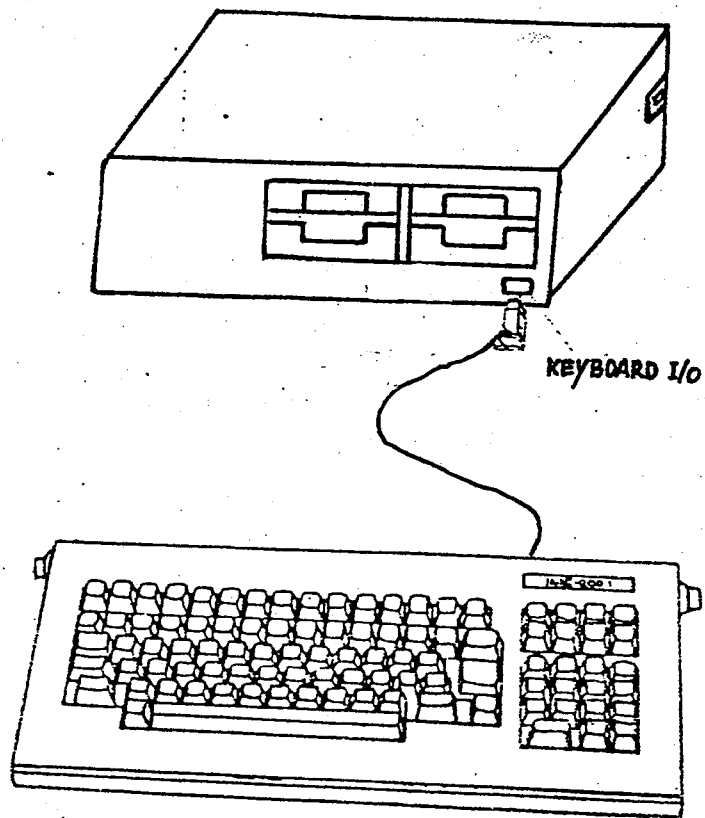

Figure 2-1
3. Plug this connector to the male connector on the rear right panel of key-board as shown in Figure 2-1.